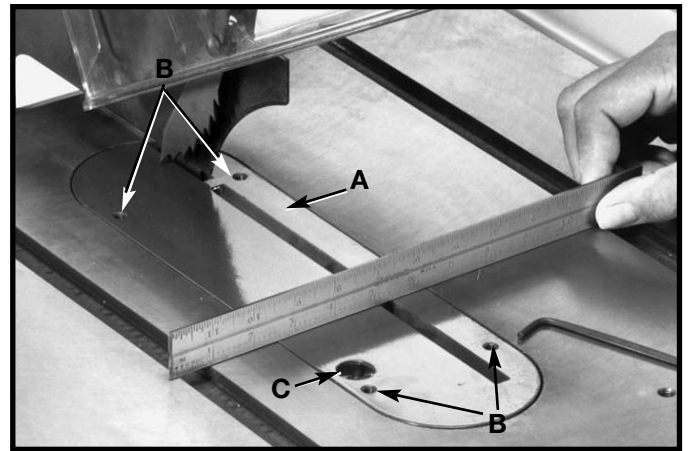

Fig. 55
Place a straight edge across the table at both ends of the table insert. The table insert (A) Fig. 55 should always be level with the table. If an adjustment is necessary, turn the adjusting screws (B). Four adjusting screws (B) are supplied in the table insert. The table insert is equipped with a convenient finger hole (C) for easy removal.